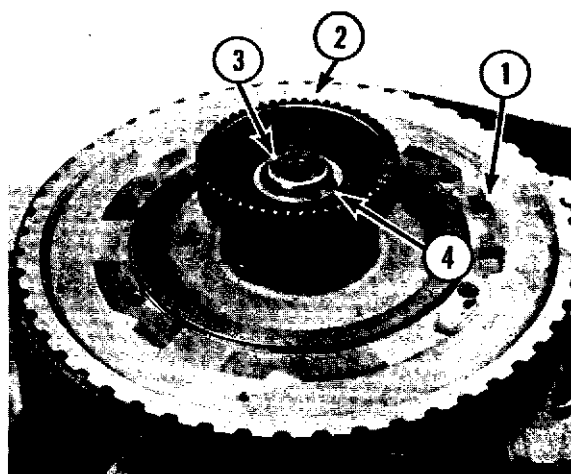
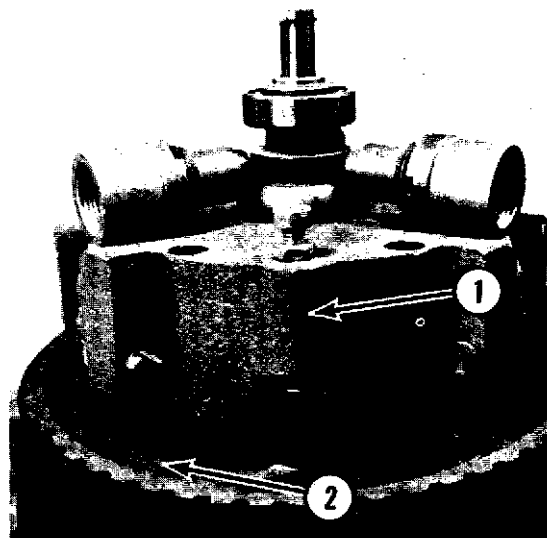

Fig. 9-18
Fig. 9-19
- (1) Install the driven gear (1, Fig. 9-18).
- (2) Install the key and splined hub (2, Fig. 9-18).
- (3) Install the shims (3, Fig. 9-18) and retaining ring (4, Fig. 9-18).
- (4) Install and adjust the bowl lift "V" belt. Refer to: Adjustments "Bowl Lift "V" Belt".
- (5) Install the Flexa-Gear.
- (6) Place the clutch arm plate assembly (1, Fig. 9-19) on the driven gear (2, Fig. 9-19), being careful to align the molded disc teeth with the teeth on the splined hub.